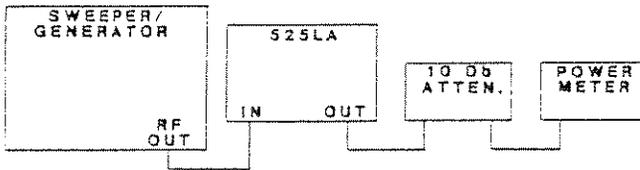

Figure 5-2 RF Output Power Test Set-Up
- a. Set up the test equipment as shown in Figure 5-2.
- a. Set up the test equipment as shown in Figure 5-2 for RF power output test.